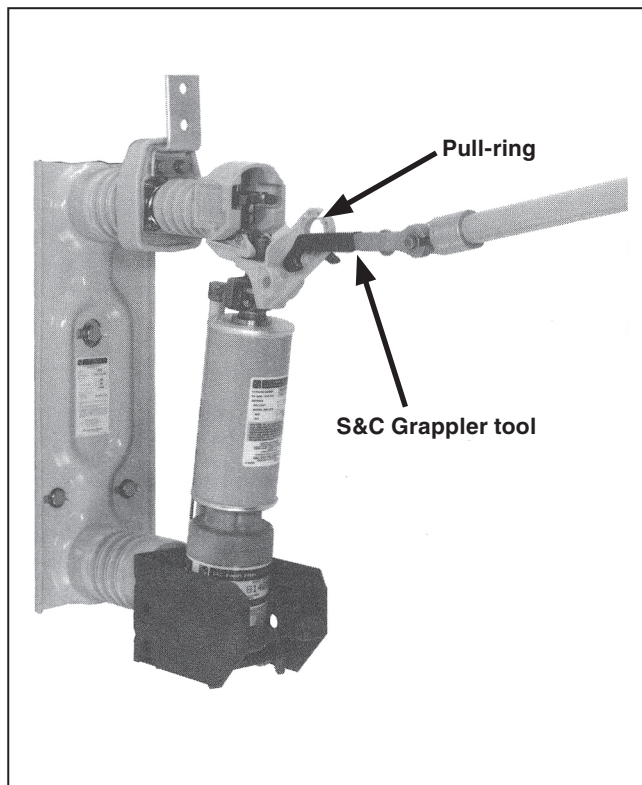

Figure 2. A Grappler tool, positioned for an opening (or closing) stroke, with the longer prong inserted in the holder pull-ring.
**STEP 1.** With the Grappler tool’s prongs pointed downward, insert the longest prong in the pull-ring of the fuse. See Figure 2.